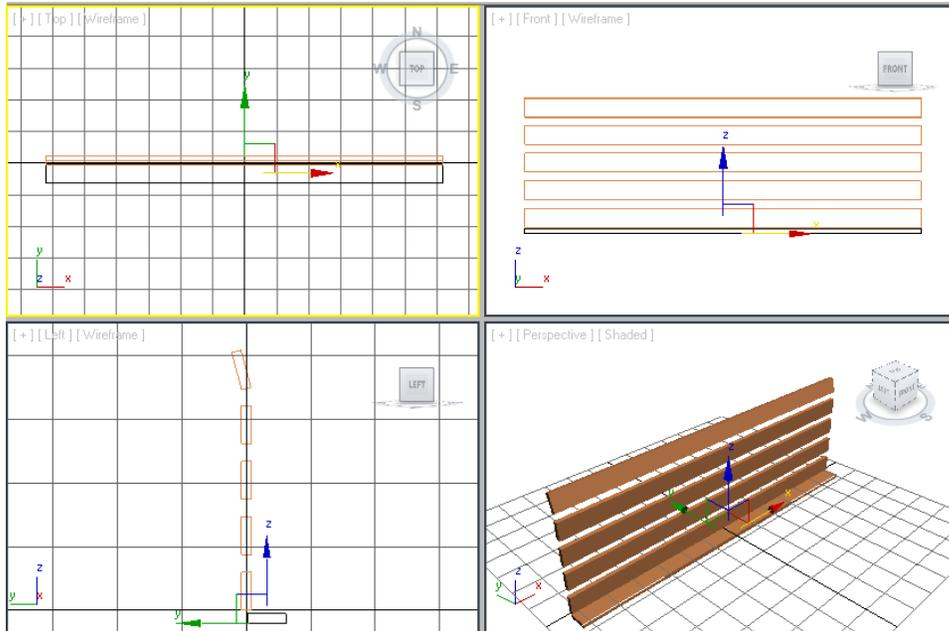

Figure 2-63 Alignment of *horizontal seat support001* in viewports
- Choose the **Select and Move** tool from the **Main Toolbar** and align *horizontal seat support001* with *horizontal back support* in viewports, refer to Figure 2-63.